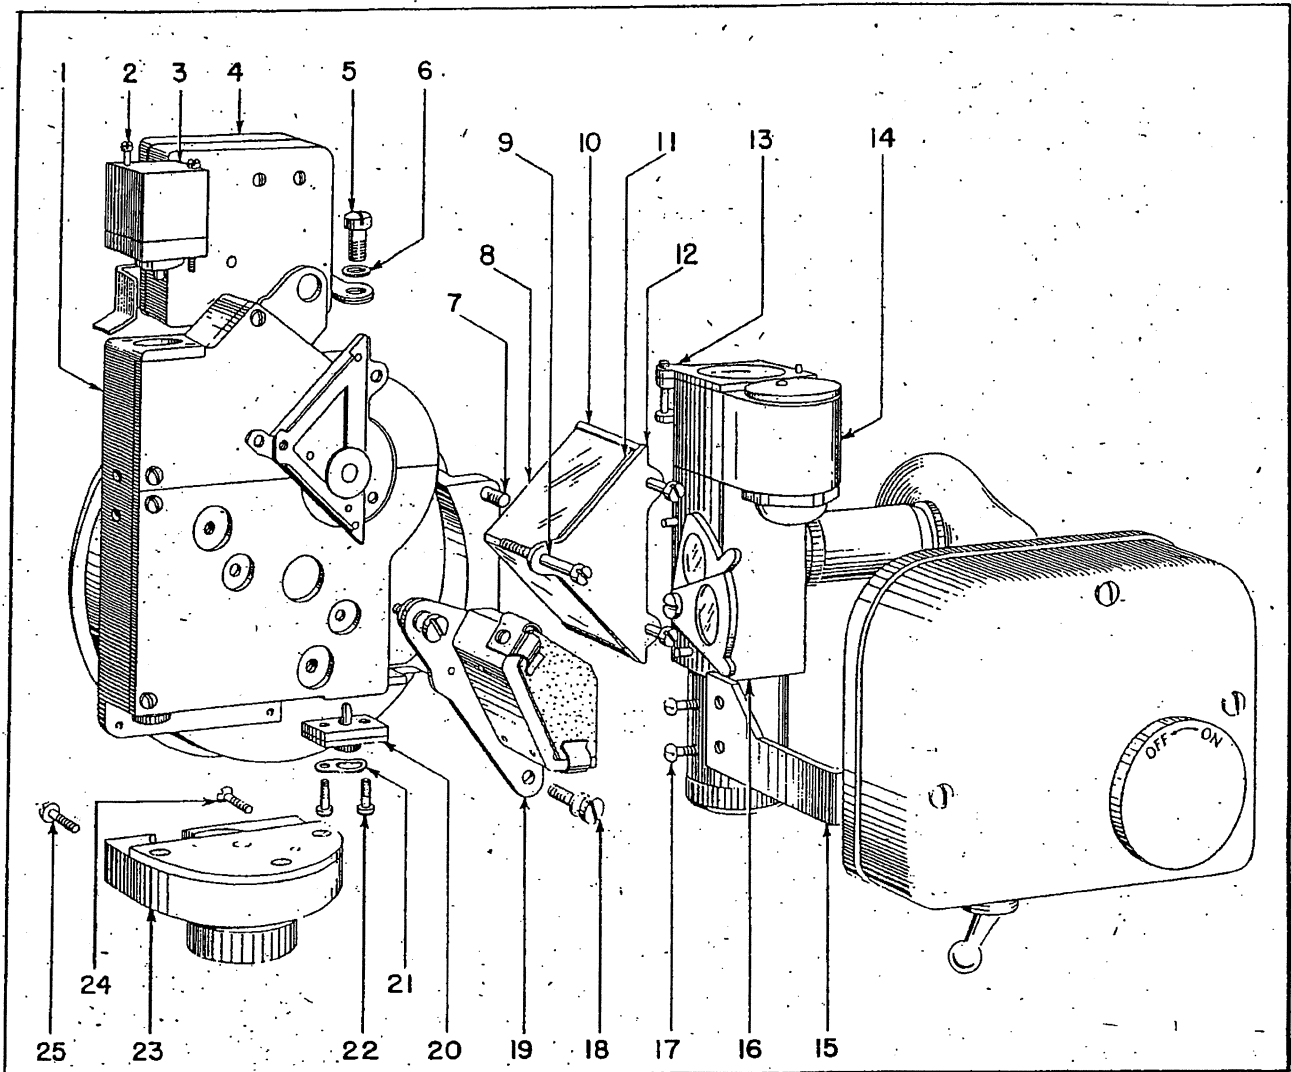

Figure 16—Major Assemblies
(1) When disassembling various units for inspection and repair, care should be taken in noting the specific order in which the various assemblies and sub-assemblies are taken apart with respect to their details.
(2) Throughout disassembly of the sextant, all assemblies, subassemblies, and details should be carefully handled. The unmeshing of gears should be given special attention.
(3) The structural systems of assemblies and related subassemblies, and the positions and the engagements of components are the factors that determine the order of methodical disassembly.
b. TIMER ASSEMBLY AND MARKER ASSEMBLY REMOVAL. (See figure 16.)—Remove from the frame assembly, two fillister-head screws (22), contact spring (21) and socket (20). Remove from the bubble chamber assembly (14), two fillister-head screws, sunshade bracket assembly (13), mount, and bubble light socket. Remove the three binding head screws and housing cover assembly from the marker housing assembly (4) and then unscrew the round-head screw, and lock washer. Remove from the frame assembly (1), fillister-head screw (5), lock washer (6), conduit clamp and marker housing assembly (4). Remove from the frame assembly (1), four binding head screws (17).
c. DRIVE ASSEMBLY REMOVAL. (See figure 16.)—Remove clamping disc, marking disc, two disc mounting screws and recording disc. Then remove flathead screw (24) and binding head screw (25).
d. COUNTER ASSEMBLY REMOVAL. (See figure 16.)—Remove two counter mounting screws (2) and counter (3).
e. GLASS CHAMBER HOUSING ASSEMBLY AND BUBBLE CHAMBER ASSEMBLY REMOVAL. (See figure 16.)—Remove two glass chamber mounting screws (7) and two lock washers, and glass chamber housing.
f. FIELD PRISM ASSEMBLY REMOVAL. (See figure 16.)—Snap off shade, and remove three prism mounting screws (9). Then remove field prism plate (12), prism cushion (11), field prism (8) with two corks and field prism shield (10) attached.
g. FIXED PRISM ASSEMBLY REMOVAL. (See figure 16.)—Remove two fixed prism mounting screws (18), and fixed prism assembly (19).
KEY TO FIGURE 16